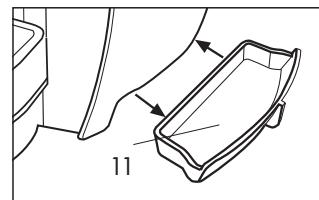

Fig. 19
Clean recovery bowl (11) taking out from his place, clean it under the sink and then reinsert in correct way the recovery bowl (11) (Fig. 19).